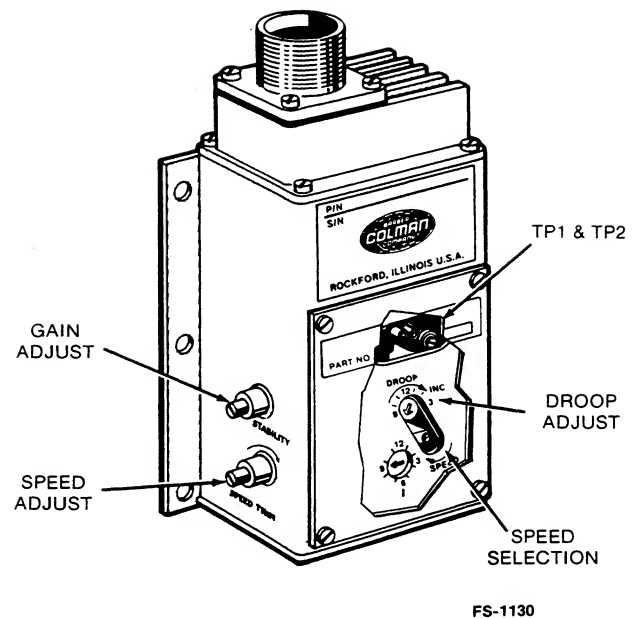

FIGURE 24. GOVERNOR CONTROL BOX
5. Adjust speed reference potentiometer in governor controller counterclockwise four complete turns. Reference Figure 24.
7. Adjust Gain potentiometer slightly clockwise then counterclockwise as necessary until engine is stable and responsive to governor control. Reference Figure 24.